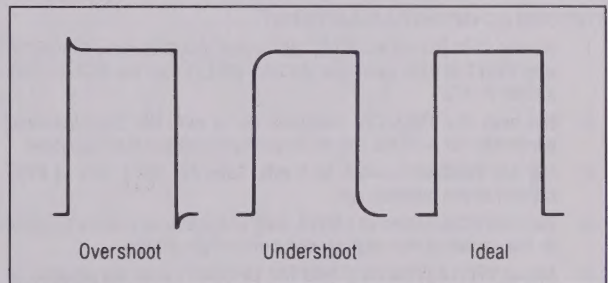

Fig. 3. Adjusting 1 kHz Square Wave Characteristics
- Adjust trimmer capacitor VC102 [VC202] (1/10 PHASE) for a square-wave that is an ideal waveform. (See Fig 3 for Square Wave Characteristics)